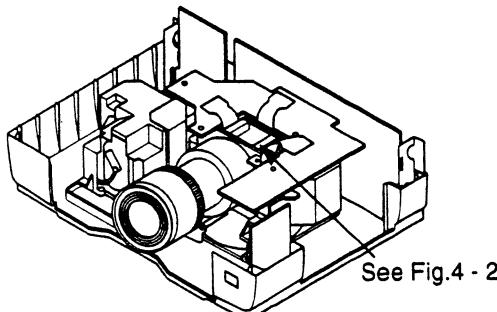

Fig.4 - 1
- ① Apply heat-running for 10 minutes or more before adjustment.
- ② Input a cross-hatch signal to the RGB input terminal with a timing signal of XGA VESA (60).
- ③ Project about a 40" size image and adjust H.PHASE so that the vertical lines of cross-hatch pattern are clear.
- ④ Loosen 2 screws ① of both the R and B panel's metal fittings. (See Figs.4 - 1 and 4 - 2.)